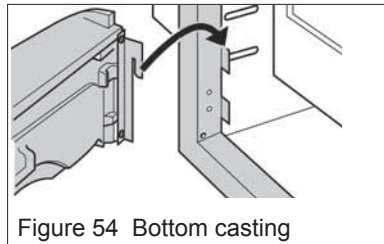

Figure 54 Bottom casting
1. Attach the bottom casting unit by hooking it over the lower tabs at the firebox sides. See figure 54.